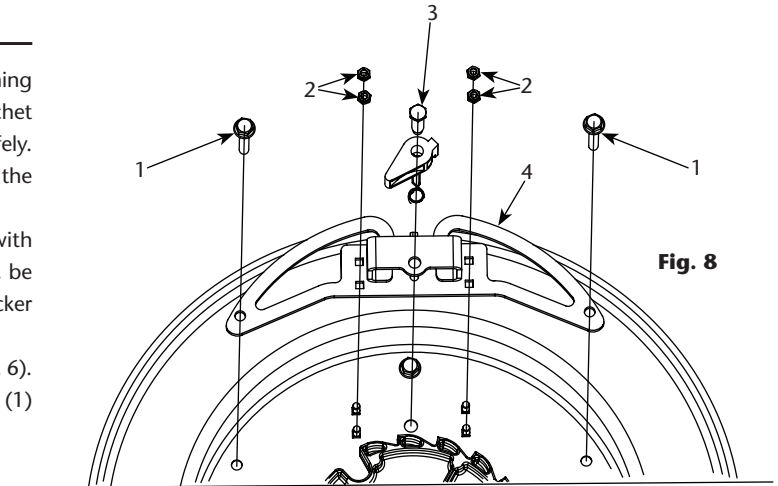

Fig. 8
2. Loosen the 2 bolts (1) (Fig. 8), and the 4 nuts (2) (Fig. 8). Remove the ratchet assembly.
4. Assemble the ratchet assembly in place and tight the 2 bolts (1) (Fig. 8), and the 4 nuts (2) (Fig. 8).